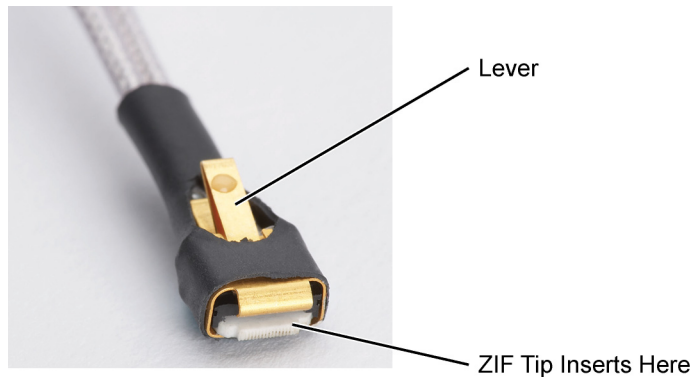

Figure 31 Probe Head with Location of the Lever
- 2 Form the coaxial cables to bring the probe head near the tip. Press the lever down on the ZIF probe head (see **Figure 31**) and slide the probe head onto the tip. Pressing on this lever removes the clamping force of the connector and enables you to insert or remove ZIF tips.